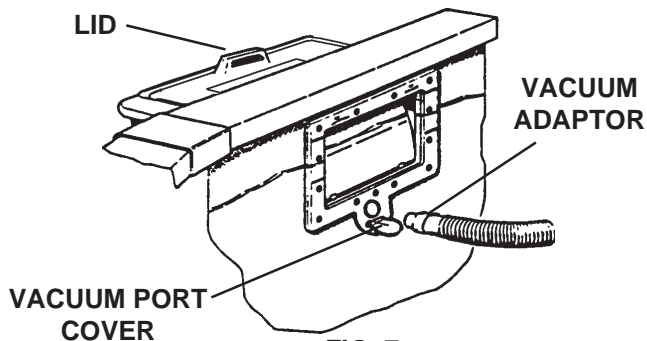

FIG. 7
3. Bend the vacuum port cover (11) to the down position. Insert the tapered end of the vacuum adaptor with hose attached into exposed opening using a twisting motion. (Fig. 7).